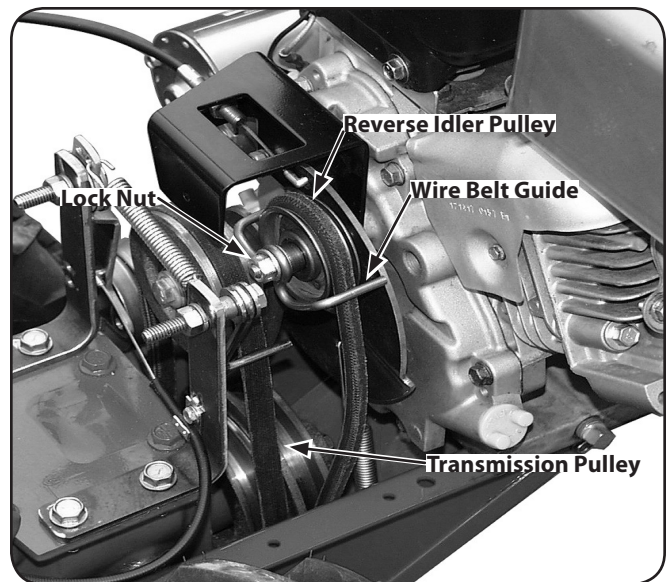

Figure 7-6
3. Pull the reverse clutch belt downward and slip it off the transmission pulley. See Fig. 7-6.